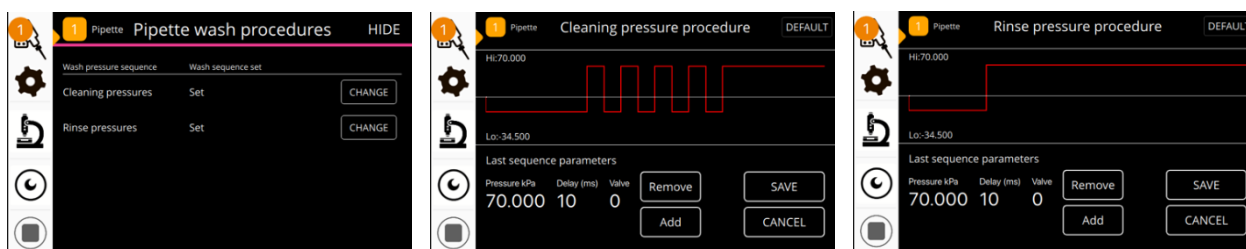

Figure 16. Cleaning and Rinse pressure sequences.
11. Configure *Cleaning pressure* sequence by tapping the *Change* button to open the protocol generator (Figure 16). The original published protocol is used by default (recoverable by *DEFAULT* button). To generate a new sequence:
- b. Add button will add another step in the protocol according to: (1) defined *Pressure*, (2) *Delay* that defines the step duration in milliseconds and (3) output *Valve* mode.
12. Configure *Rinse pressure* sequence by tapping the Change button to open the protocol generator (Figure 16). The original published protocol is used as default (recoverable by *DEFAULT*). Follow instructions provided in 11. to generate a new protocol.